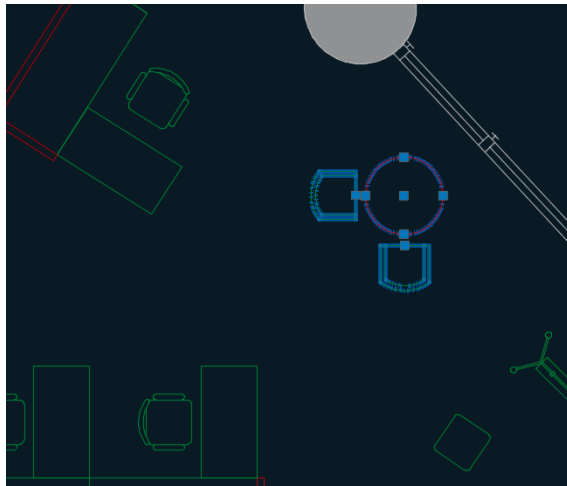

FIGURE 9.7 Deleting two armchairs and a side table to make way for a new sofa
1. Zoom into the upper-right building quadrant, select the two armchairs and round side table, and press the Delete key (see Figure 9.7).